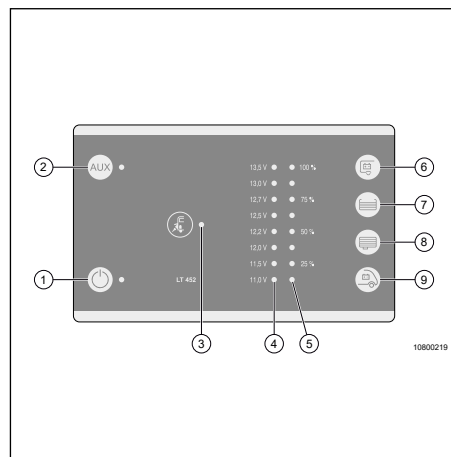

Fig. 44 Control Panel
6. Check function on control panel (Fig. 44).
The main switch 12 V (Fig. 44, Pos. 1) switches the 12 V supply of the living area on and off.
The fill level of the water and waste water tanks can be checked by pressing the buttons (Fig. 44, Pos. 7 and 8) on the control panel.